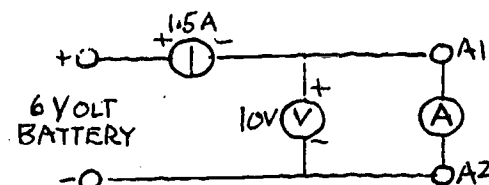

FIG. 2.
6. With generator still hot, measure the armature resistance by the voltmeter-ammeter method; connect as in Figure 2. Record the voltage and current in table 2.
7. With the generator still hot measure the armature resistance by the voltmeter-ammeter method as in figure 2.